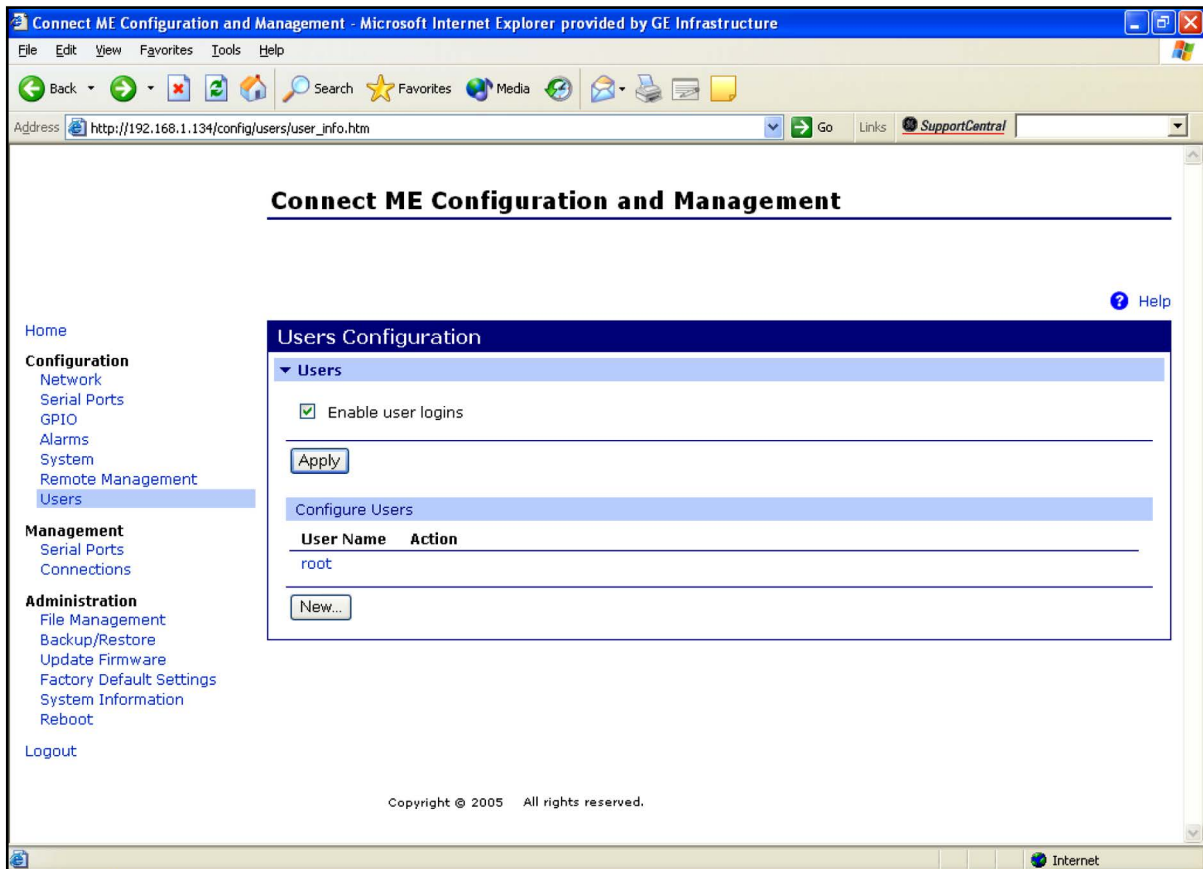

Figure 25: User's Configuration Menu
3. Click on **Login**. *Figure 25* appears.